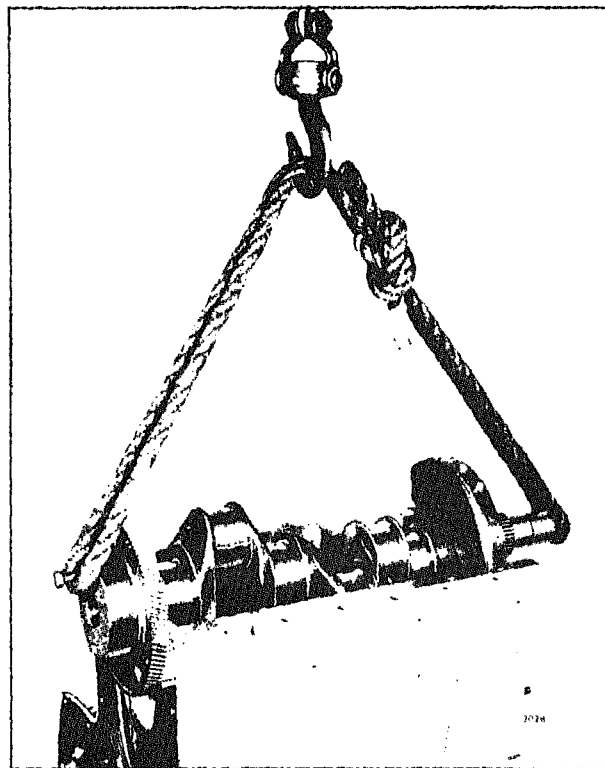

Fig. 3 - Removing or Installing Crankshaft
19. Remove the crankshaft, including the timing gear (Fig. 3).